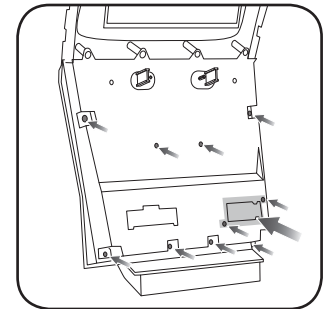

Fig. 3.4
4. Preinstall the connector housing removed earlier. Secure the backplate with the ten included Phillips screws. (Fig. 3.4)